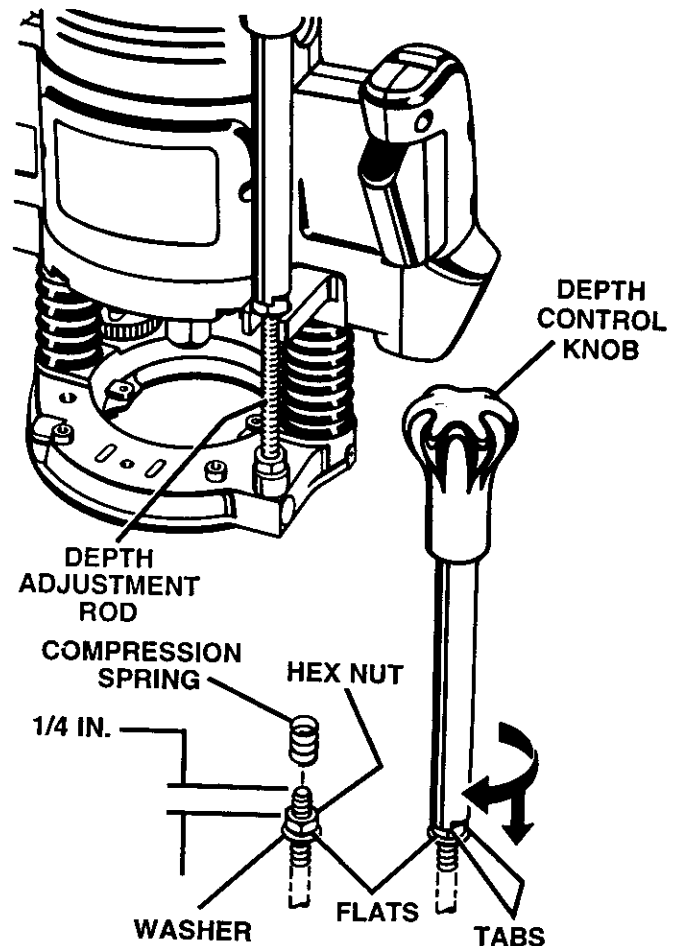

Fig. 27
See Figure 27.
- Place compression spring on top of hex nut as shown in figure 27.